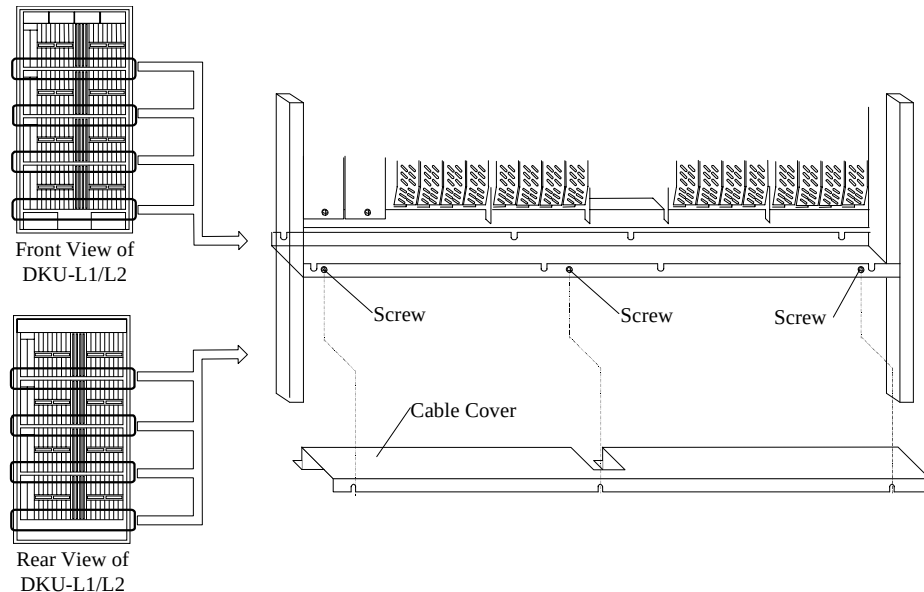

Fig. 3.11.7-2 Removal of Cable Covers
- c. Connect the DEV interface cables to the FSW PCBs in the DKU-L2 frame referring to Fig. 3.11.7-3 through Fig. 3.11.7-6.